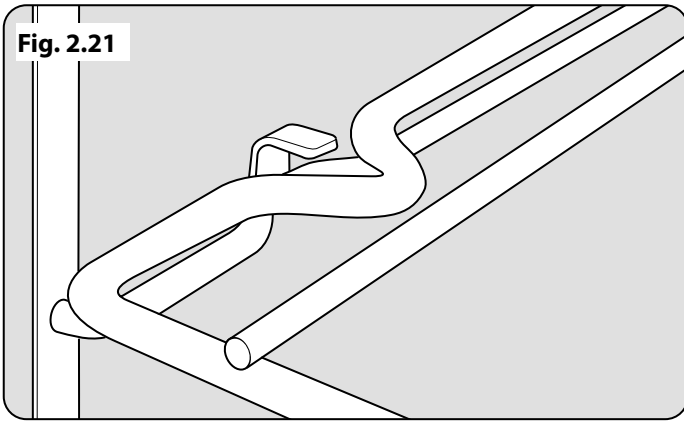
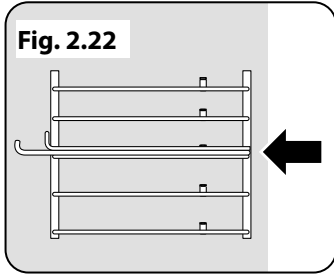
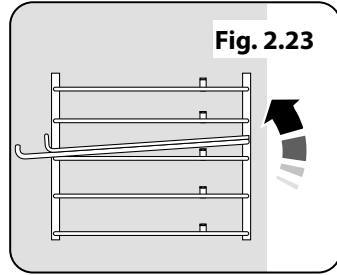

Fig. 2.21
Fig. 2.22
Fig. 2.23
1. The shelf has a small kink on either side (**Fig. 2.21**). To remove the shelf, line these up with the stops in the shelf support (**Fig. 2.22**). Lift the rear of the shelf upward so that it will pass over the shelf stop and then pull it forward (**Fig. 2.23**).